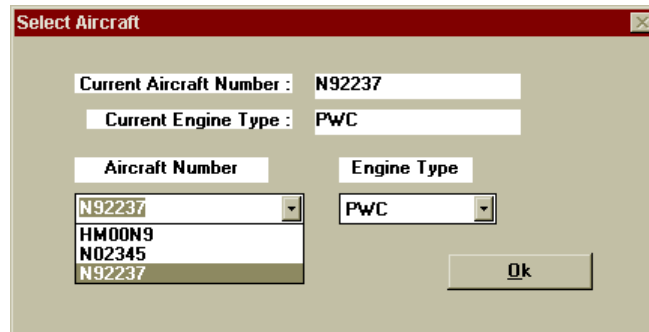

Figure 59. Select Aircraft Screen
2. Select the helicopter to use for this BMS session (refer to Figure 59).